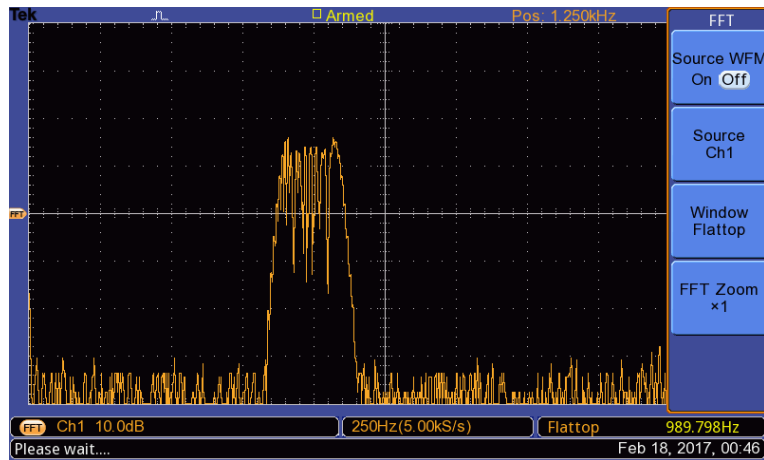

Figure 11: FM modulation
5. To see F.M. signals better we are going to use the FFT Button on the oscilloscope. Press FFT on the oscilloscope and change the horizontal scale to 250Hz. The oscilloscope is working like a spectrum analyzer in FFT mode. The horizontal represents frequency now, not time. You should see a signal similar to figure 11.